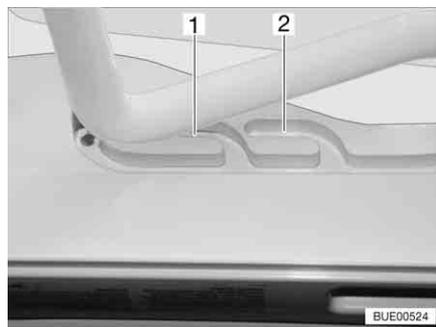
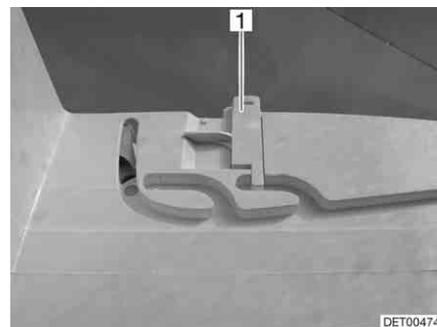

Fig. 86 Heki skylight in ventilation position
Fig. 87 Ventilation position locking mechanism
The Heki skylight can be put in two ventilation positions: Bad weather position (Fig. 86,1) and central position (Fig. 86,2). Depending on the model, the skylight can be locked in the central position with the latch (Fig. 87,1).
- Push the bar slightly upwards and into the selected guide (Fig. 86,1 or 2) and lock if necessary.